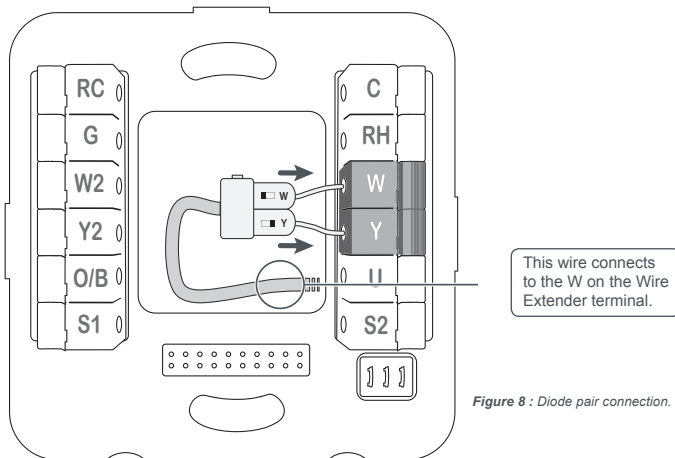

Figure 8 : Diode pair connection.
2. Connect the diode pair to the Y and W terminals (Fig. 8). Ensure that the diode pair's Y terminal is connected to the thermostat's Y terminal and the diode pair's W terminal is connected to the thermostat's W terminal.